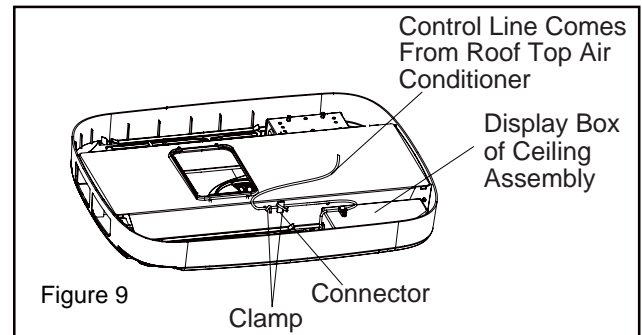
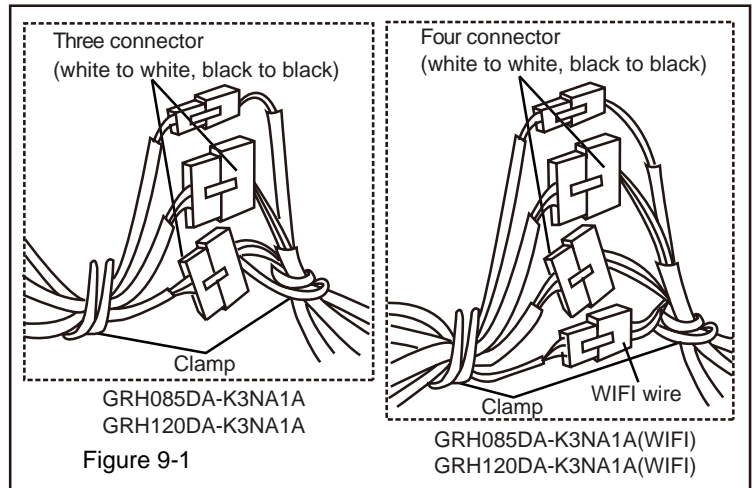

Figure 9
Figure 9-1
6. Connect the three connector (four connector) and secure the clamp (see Figure 9 and Figure 9-1). The connector should be placed above the mounted plate of indoor unit, and it should be higher than the clamp.